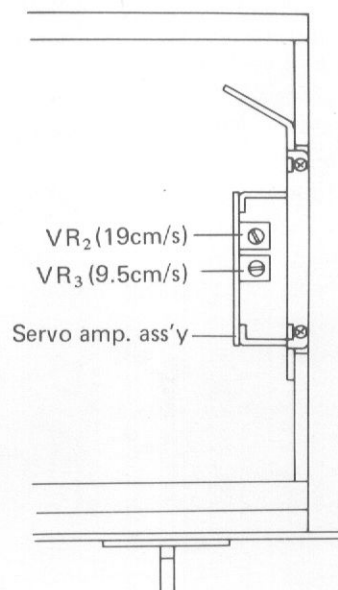

Fig. 29
2. Adjust VR₂ (2kΩ) of the Servo amp ass'y of Fig. 29 so that this value becomes 3,000Hz/s.
2. Adjust VR₃ (2kΩ) in the Servo amp ass'y of Fig. 29 so that this frequency becomes 1,500Hz/s.